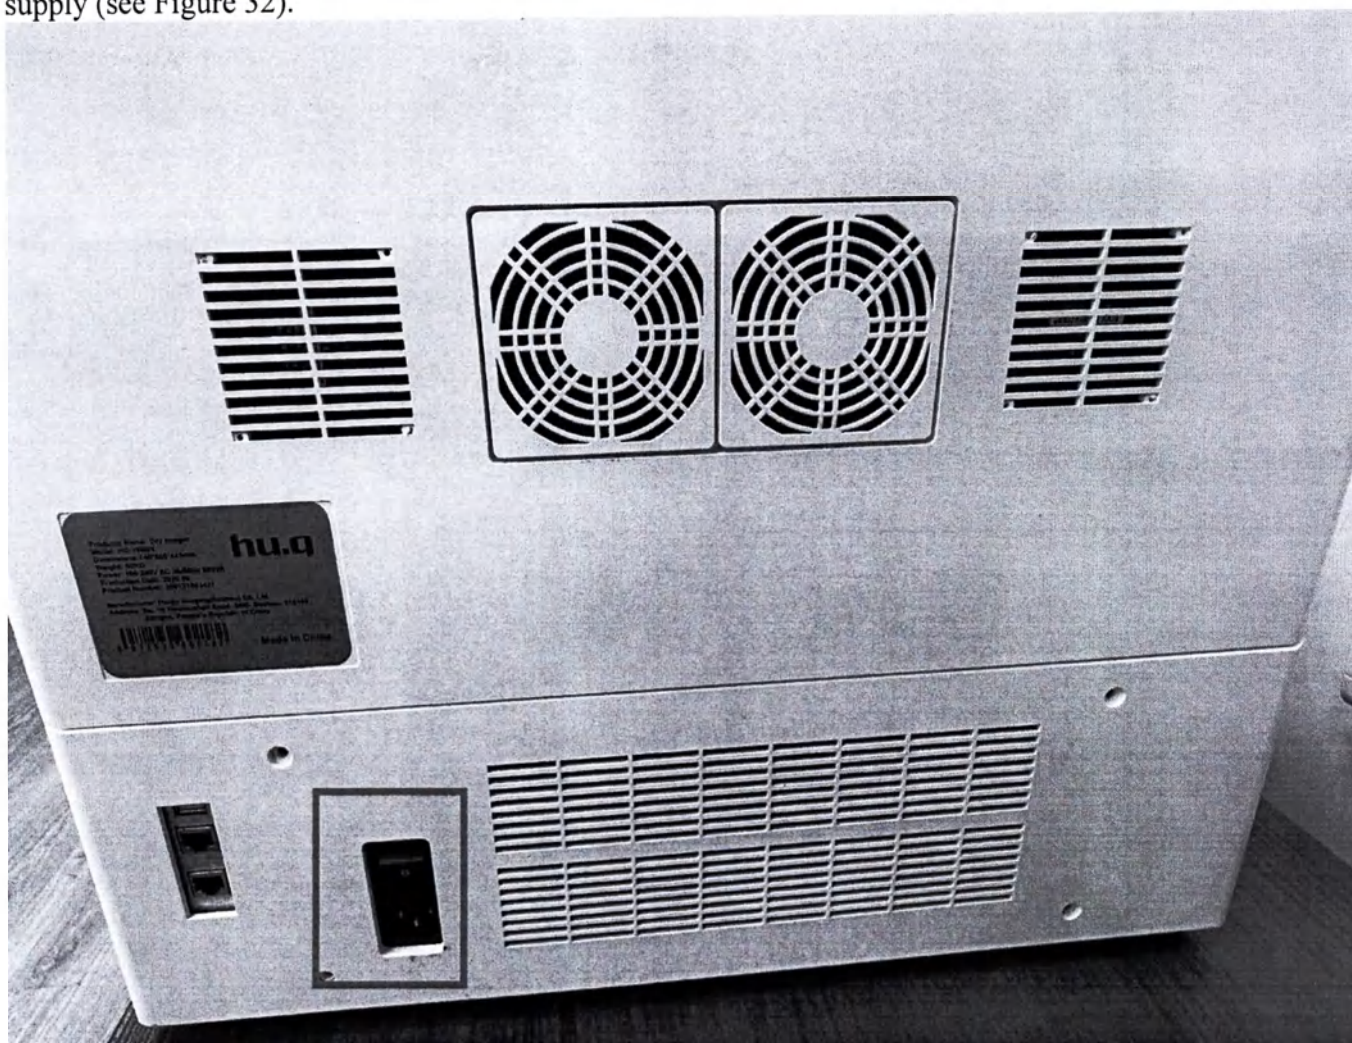
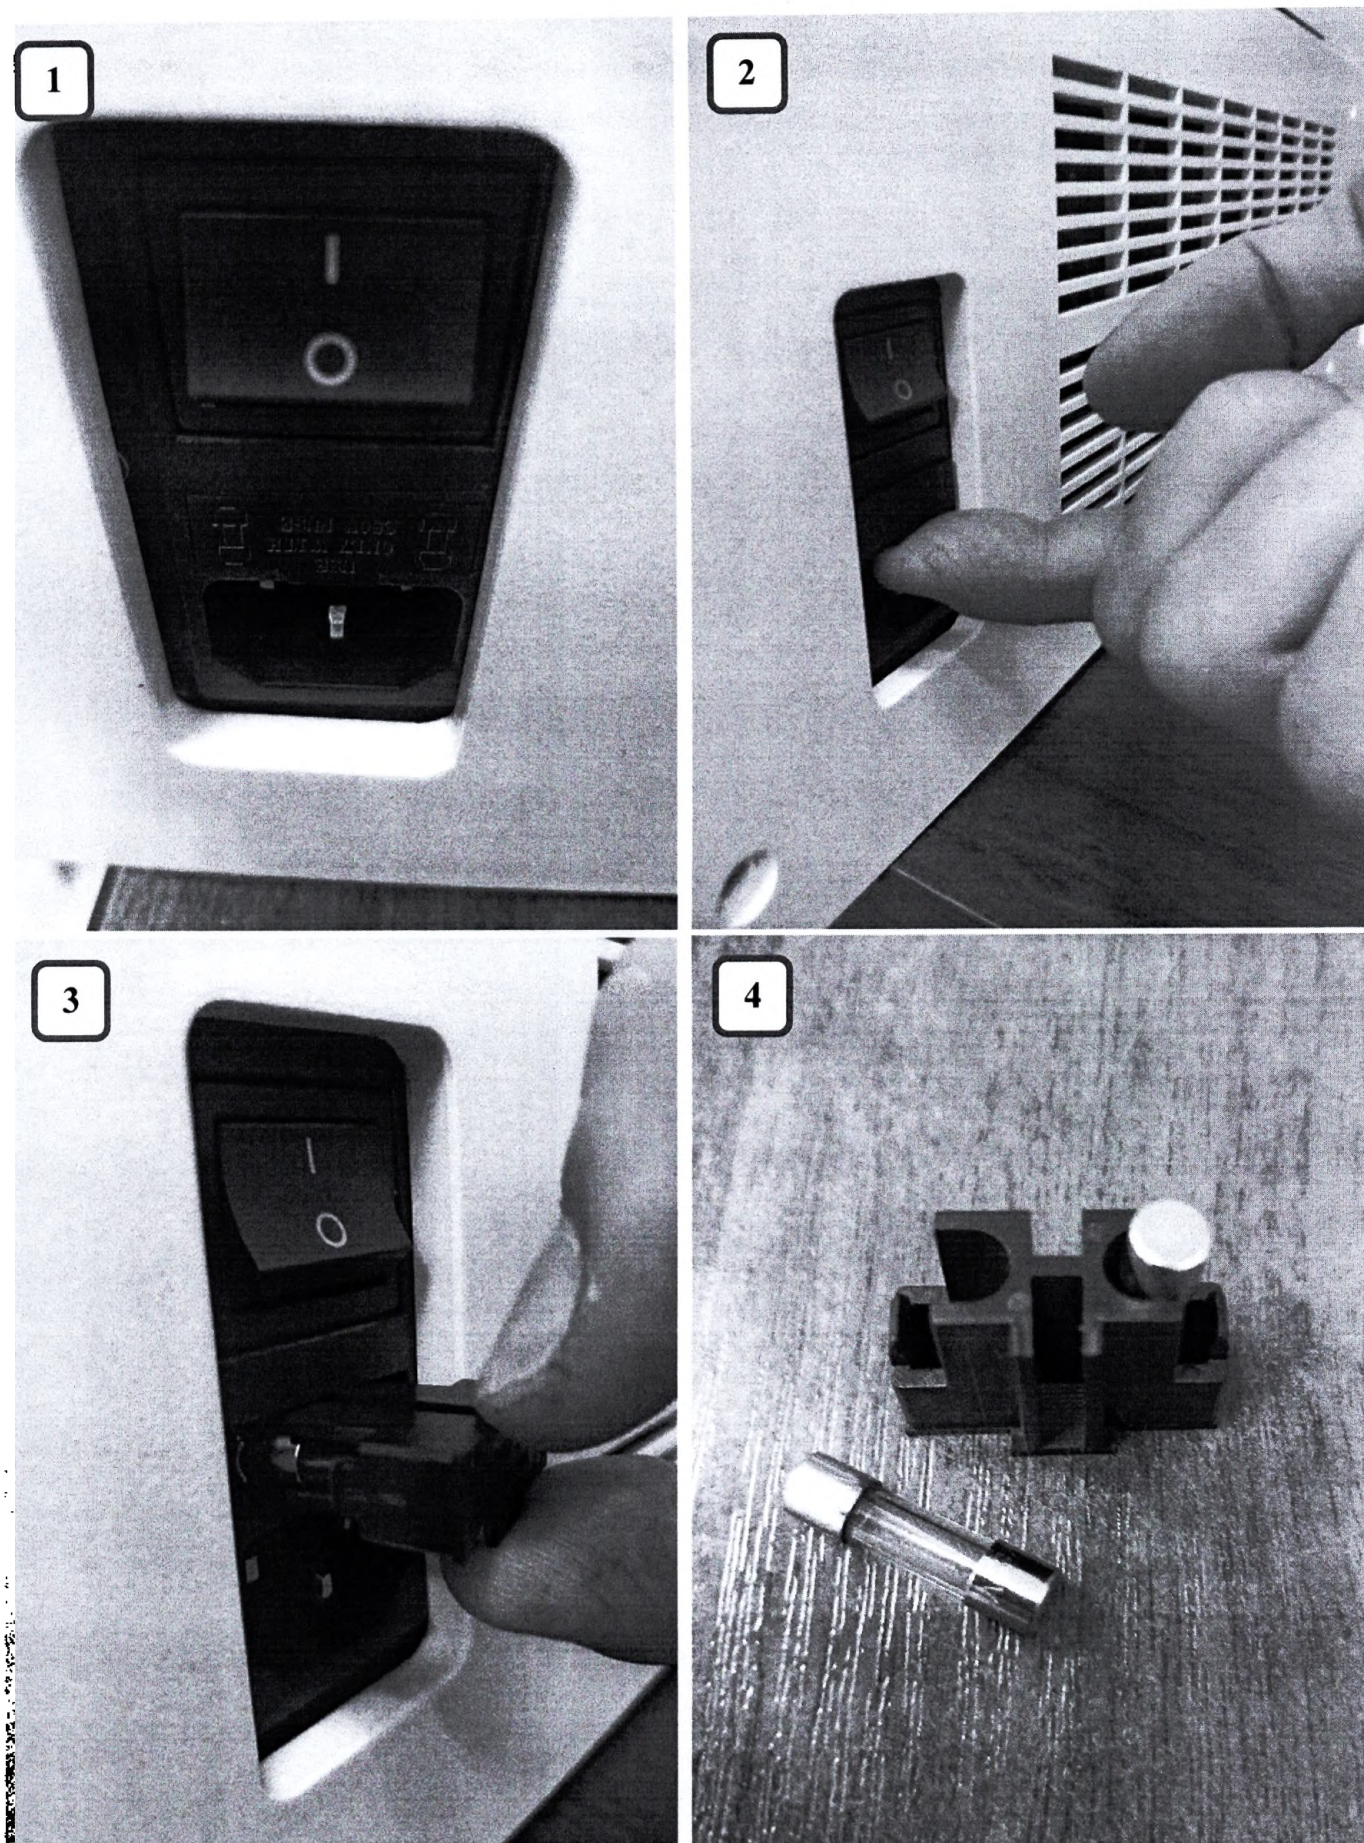

Figure 32 – Location of the device's power supply on the back side
Figure 33 – Procedure for replacing the fuse in the device's power supply
19.4. To replace the fuse, remove the fuse holder from the slot (see Figure 33) in the device's power supply (see Figure 32).